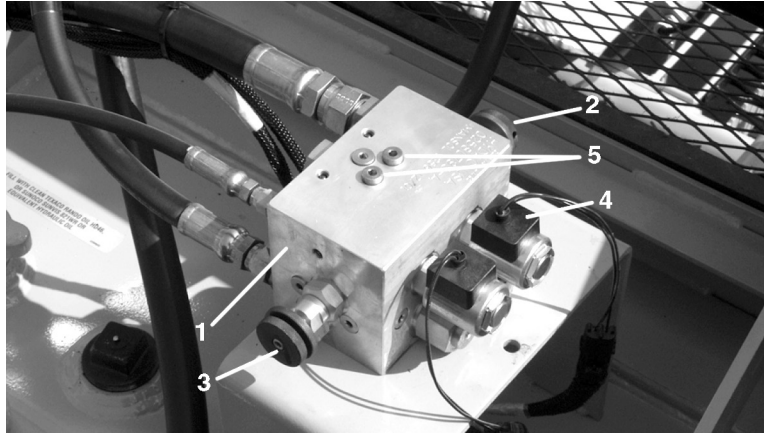

Figure 7
* Bad or contaminated load sense check valves can cause erratic stand-by pressures. (see figure 7 & 8 to identify location of load check valves).